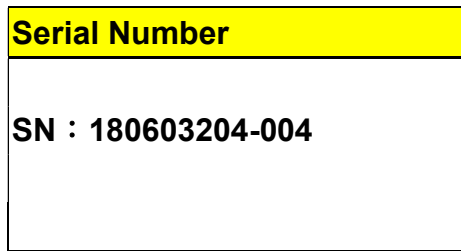

Figure 151
B. Press  button to the viewing mode as shown in Figure 151.